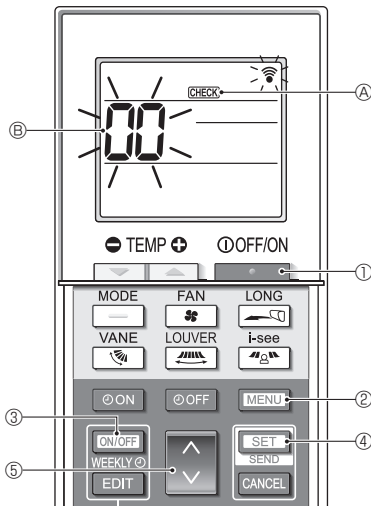

Fig. 7-6
- **Self-check (Fig. 7-6)**
- Press the **ON/OFF** button ① to stop the air conditioner.
- If the weekly timer is enabled (**WEEKLY** is on), press the **ON/OFF WEEKLY** button ③ to disable it (**WEEKLY** is off).
- Press the **MENU** button ② for 5 seconds.
- Press the **CHECK** button ⑤ to select the refrigerant address (M-NET address) ⑥ of the indoor unit for which you want to perform the self-check.
- Press the **SET** button ④.
- Press the **ON/OFF** button ①.